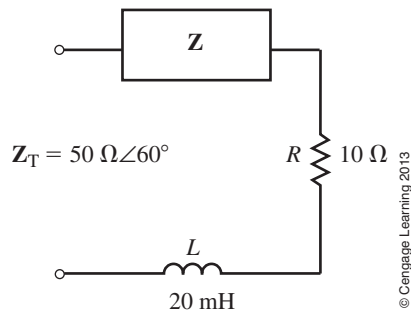

FIGURE 18-92
19. Given that the network of Figure 18-92 is to operate at a frequency of 1 kHz, what series components R and L (in henries) or C (in farads) must be in the indicated block to result in a total circuit impedance of $Z_T = 50 \Omega \angle 60^\circ$?